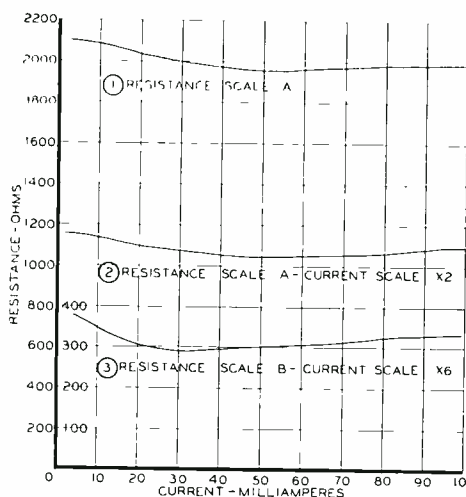

Figure 3
required for normal c.w. operation. Inspection of figure 3 shows that the maximum grid-driving power for a single 50T is approximately 12.5 watts and the driver stage should be designed accordingly. A bleeder resistance of 10,000 to 20,000 ohms connected across the grid tank circuit of the modulated amplifier will improve the exciting voltage regulation. As previously mentioned, this value of bleeder re-
The characteristic of the tungsten lamp can be compensated by running a carbon lamp in series. The resistance of a carbon lamp decreases with increasing current, and a combination with a tungsten lamp can be found which has practically constant resistance over a wide current range. The curves of three such combinations are given in figure 3. Curve (1) is for a Nalco² 2-c.p., 115-volt carbon lamp in